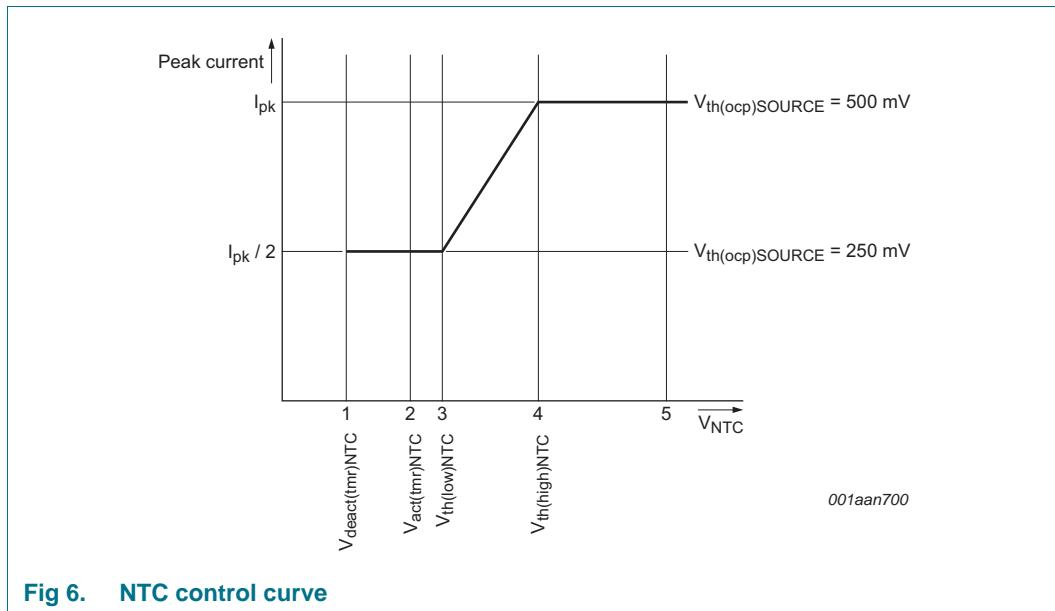

Fig 6. NTC control curve
The NTC pin can be used as a control method for LED thermal protection. Alternatively, the pin can be used as an input to disable/enable light output using a digital signal (PWM dimming). The pin has an internal current source that generates the current of $I_{\text{offset(NTC)}}$. An NTC resistor to monitor the LED temperature can be directly connected to the NTC pin. Depending on the resistance value and the corresponding voltage on the NTC pin, the converter reacts as shown in Figure 6.
When the voltage on the NTC pin exceeds $V_{th(\text{high})\text{NTC}}$ (see Figure 6 \(4\)), the converter delivers nominal output current. When the voltage is lower than this level, the peak current is gradually reduced until $V_{th(\text{low})\text{NTC}}$ is reached (see Figure 6 \(3\)). The peak current is now half the peak current of nominal operation. When $V_{act(\text{tmr})\text{NTC}}$ is passed (see Figure 6 \(2\)) a timer starts to run to distinguish between the following situations:
- If the low-level $V_{deact(\text{tmr})\text{NTC}}$ is not reached within time $t_{to(\text{deact})\text{NTC}}$ (see Figure 6 \(1\)) LED overtemperature is detected. The IC stops switching and attempts to restart from the HV pin voltage. The converter restarts from an NTC protection shutdown when the voltage on the NTC pin exceeds $V_{th(\text{high})\text{NTC}}$ (see Figure 6 \(4\)). It is assumed that the reduction in peak current does not result in a lower NTC temperature and LED OTP is activated.
- If the low-level $V_{deact(\text{tmr})\text{NTC}}$ is reached within the time $t_{to(\text{deact})\text{NTC}}$ (see Figure 6 \(1\)) it is assumed that the pin is pulled down externally. The restart function is not triggered. Instead, the output current is reduced to zero. PWM dimming can be implemented this way. The output current rises again when the voltage is higher than $V_{th(\text{low})\text{NTC}}$.
The NTC pin can be used to make a soft start function. During switch-on, the level on the NTC pin is low. By connecting a capacitor (in parallel with the NTC resistor), a time constant can be defined. The time constant causes the level on the NTC pin to increase slowly. When passing level $V_{th(\text{low})\text{NTC}}$ (see Figure 6 \(3\)), the convertor starts with half of the maximum current. The output current slowly increases to maximum when $V_{th(\text{high})\text{NTC}}$ (see Figure 6 \(4\)) is reached.